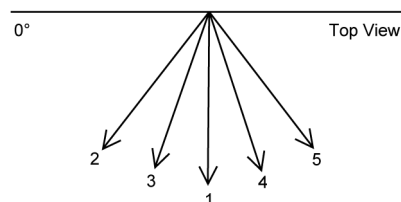

Figure 2
2. Manual vertical airflow direction can be set using remote control; the angles of the vane are as stated above and the positions of the vane are as Figure 2 below. When the air conditioner is stopped using remote control, the vane will shift to close position.
- Manual horizontal airflow direction can be set using remote control; the angles of the vane are as stated below and the positions of the vane are as Figure 2 above.